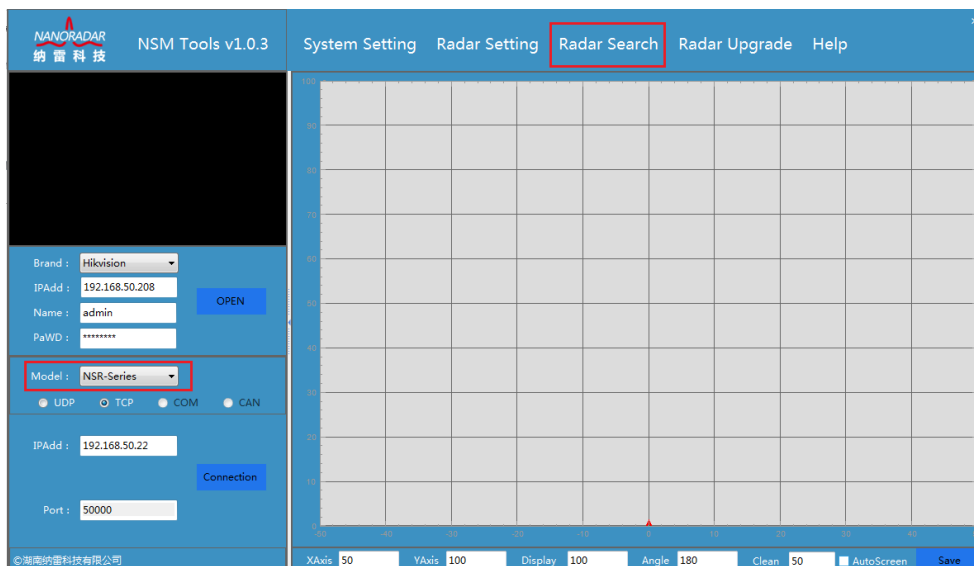

Fig 2-10 Radar Search
Step 1: Select Radar model as **【NSR-Series】** as Fig 2-10, click **【radar search】** .